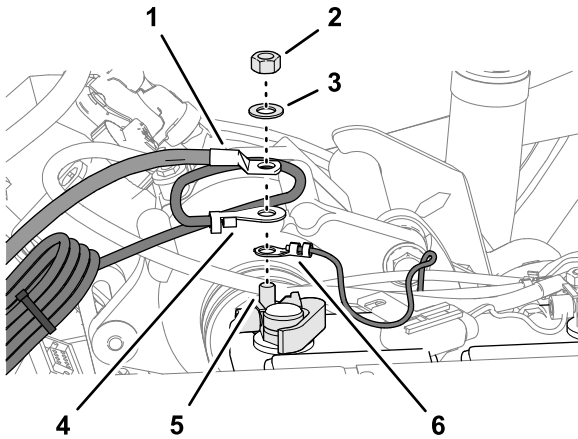

Figure 243
5. Assemble the following wire and cable terminals onto the threaded post of the negative battery terminal (Figure 243) in the following order: